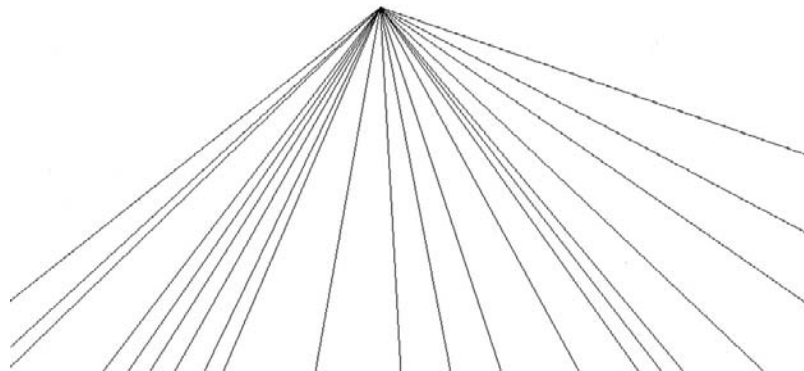

FIGURE 11.14
Step 2. Click anywhere and a ray is created (Figure 11.14).